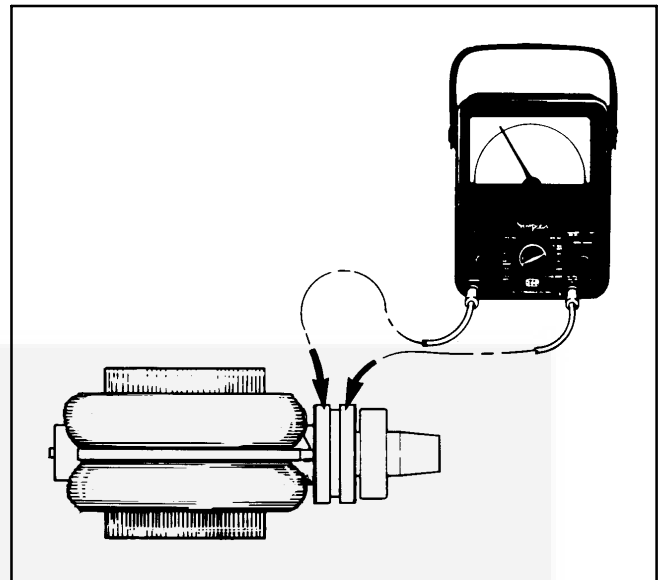

FIGURE 9-5. OPEN OR SHORTED ROTOR TEST
**Test for Open Windings:** To test for open windings, set the ohmmeter on the highest resistance scale. Place test prods on the slip rings as shown in Figure 9-5. The ohmmeter should indicate continuity between the slip rings. A high resistance reading indicates a poor connection or an open winding. Check the connection between the slip rings and rotor lead wires. Replace rotor if rotor winding is open.
**Test for Shorted Windings:** To test for shorted winding, set the ohmmeter on the lowest scale. Place the test prods on the slip rings as shown in Figure 9-5. A reading of less than 16 ohms at 77° F (25° C) indicates shorted windings. Replace rotor if winding is shorted.